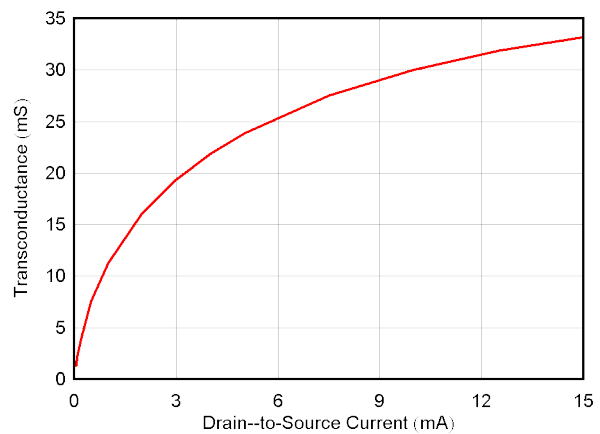
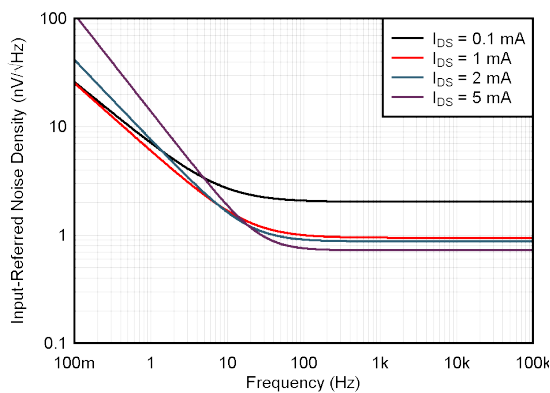
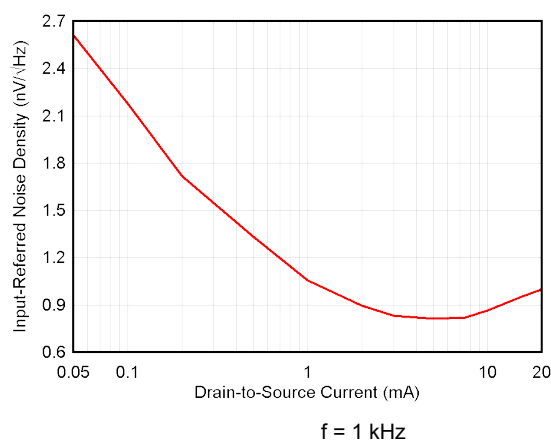
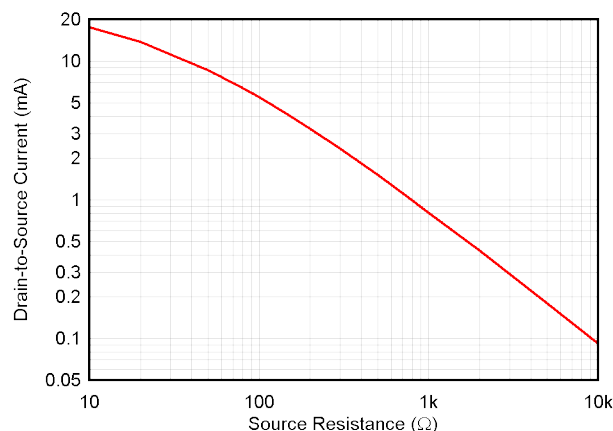

图 6-4. Common Source Transconductance vs Drain-to-Source Current
图 6-9. Input-Referred Noise Density vs Frequency
图 6-11. Input-Referred Noise Spectral Density vs Drain-to-Source Current
图 9-3. Drain-to-Source Current vs R_S , $V_{DS} = 5\text{ V}$
Designs that feature operational amplifiers (op amps) as the primary gain stage are common, but these designs are not able to achieve the lowest possible noise as a result of the inherent challenges and tradeoffs required from a full operational amplifier design. Noise in JFET designs can be evaluated in two separate regions: low-frequency flicker noise and wideband thermal noise. Flicker, or $1/f$ noise, is extremely important for systems that require signal gain at frequencies less than 100 Hz. The JFE150 achieves extremely low $1/f$ noise in this range. Thermal noise is noise in the region greater than 1 kHz and depends on the gain, or g_m , of the circuit. The g_m is a function of the drain-to-source bias current; therefore, thermal noise is also a function of drain-to-source bias current. 图 6-9 shows both $1/f$ and thermal noise with multiple bias conditions measured using the circuit shown in 图 7-1.
Generally, higher gain results in improved noise performance. Gain increases as the bias current is increased as a result of increasing g_m (see 图 6-4). As a result, the input-referred noise decreases as bias current is increased (see 图 6-9). Any JFET design must make a tradeoff between current consumption and noise performance. The JFE150, however, delivers significantly lower noise performance than most operational amplifiers at the same current consumption. The bias current (I_{DS}) is set by the value of the source resistor, R_S , and the threshold voltage, V_T , of the JFE150. 图 9-3 is a graph showing nominal I_{DS} vs R_S .
R_S	Source resistor. Used to set bias of JFET; see 图 9-3. Resistor thermal noise directly impacts noise performance.
- The JFE150 bias current is set by selecting the desired bias current and noise tradeoff (see 图 6-11). The input-referred noise is dominated by the JFE150 bias current and gain. To set the bias current point, adjust the source resistance according to 图 9-3.